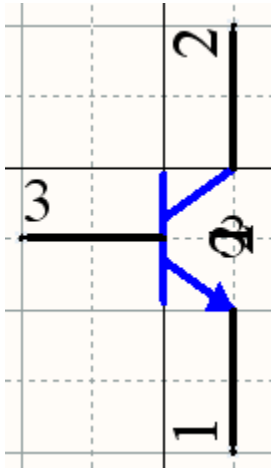

Figure 6. NPN symbol with pin name and number visible.
7. Continue to add the pins required to finish the component, making sure the pin names, numbers, symbols and electrical types are correct as shown on the NPN symbol shown in Figure 6.